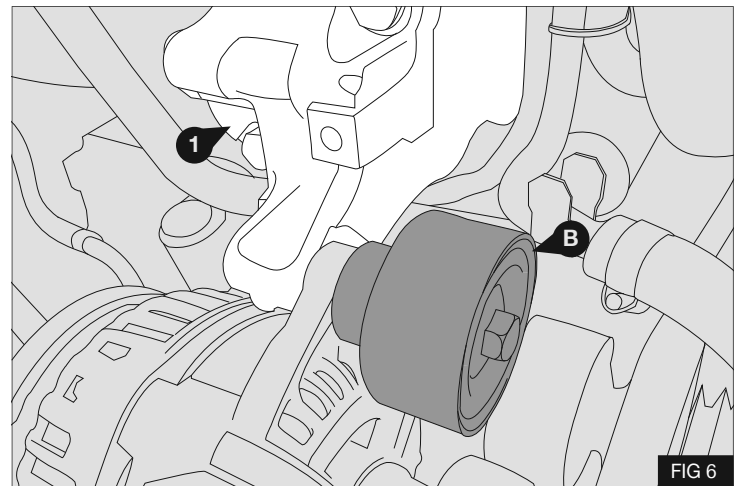

FIG 6
Refit the previously removed idle pulley (B) to the position shown opposite. The idle pulley (B) should now secure the alternator to the mount bracket (1) - Fig 6